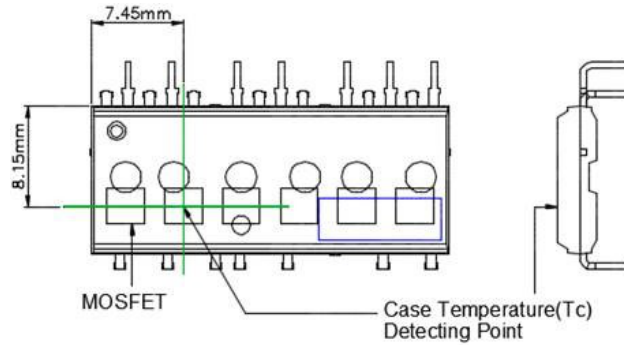

Figure 4. Case Temperature Measurement
- For the measurement point of case temperature T_C , Please refer to Figure 4.